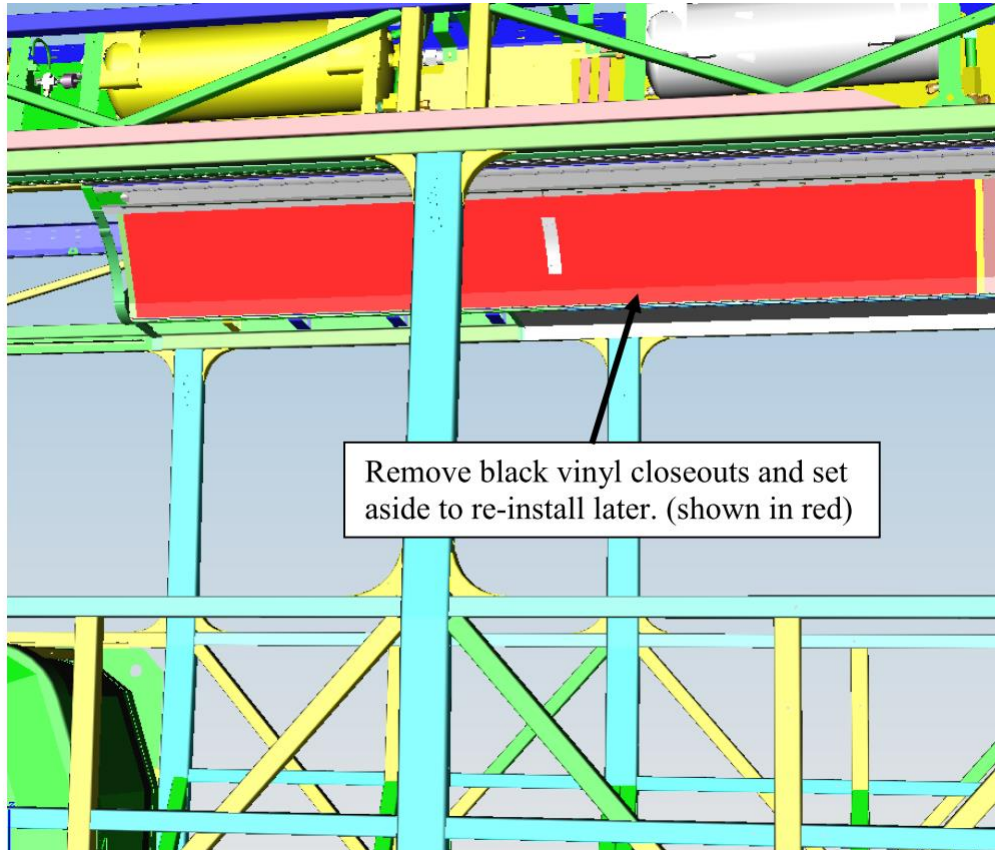

FIGURE 2: REMOVE BLACK VINYL CLOSEOUTS TO GAIN ACCESS
5. Remove the black vinyl closeouts to gain access to the air accessory tank. Set aside to re-install later. Refer to Figure 2.